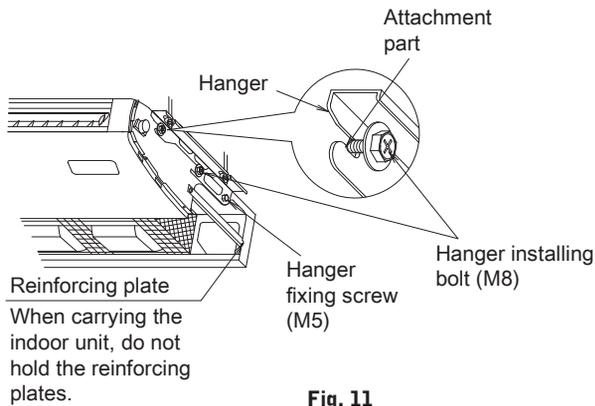

Fig. 11
(2) Lift up the indoor unit, slide from the front and put the hanger installing bolt (M8) into the securely for temporary hanging. (Refer to Fig. 11)
(3) Tighten the hanger fixing screws (M5) at 2 places, which were removed, as they were before. (Refer to Fig. 11)
(4) Tighten the hanger installing bolts (M8) at 4 places securely. (Refer to Fig. 11)